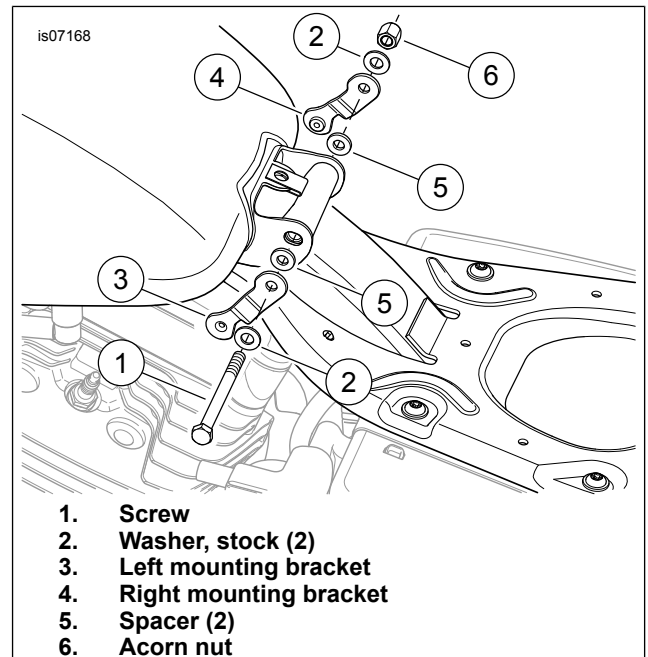

Figure 1. Install Mounting Brackets to Fuel Tank Mount
3. See Figure 1. Install the left and right mounting brackets with the mounting hardware in the following order: Screw (1), stock washer (2), left bracket (3), spacer (5), tank, frame, tank, spacer (5), right bracket (4), stock washer (2), acorn nut (6).